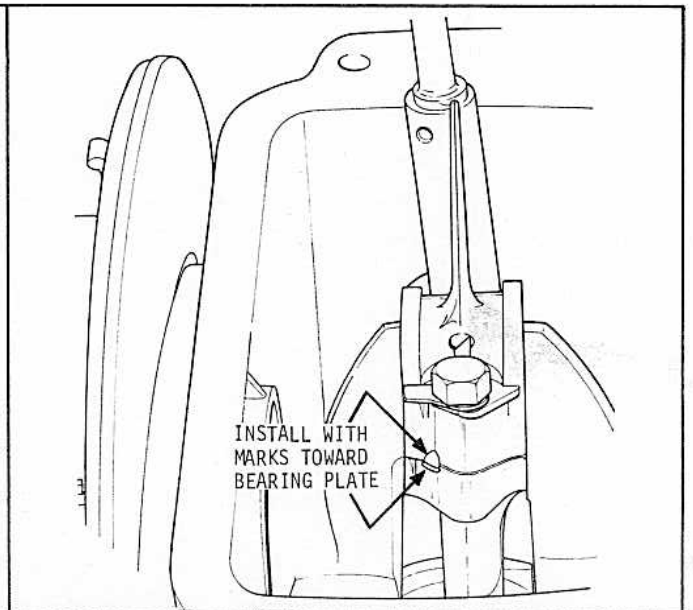

FIGURE 12-11 INSTALLING CONNECTING ROD CAP SCREW
- b. It is important that marks on connecting rod and cap line up and face flywheel end of engine. (See Figure 12-11)